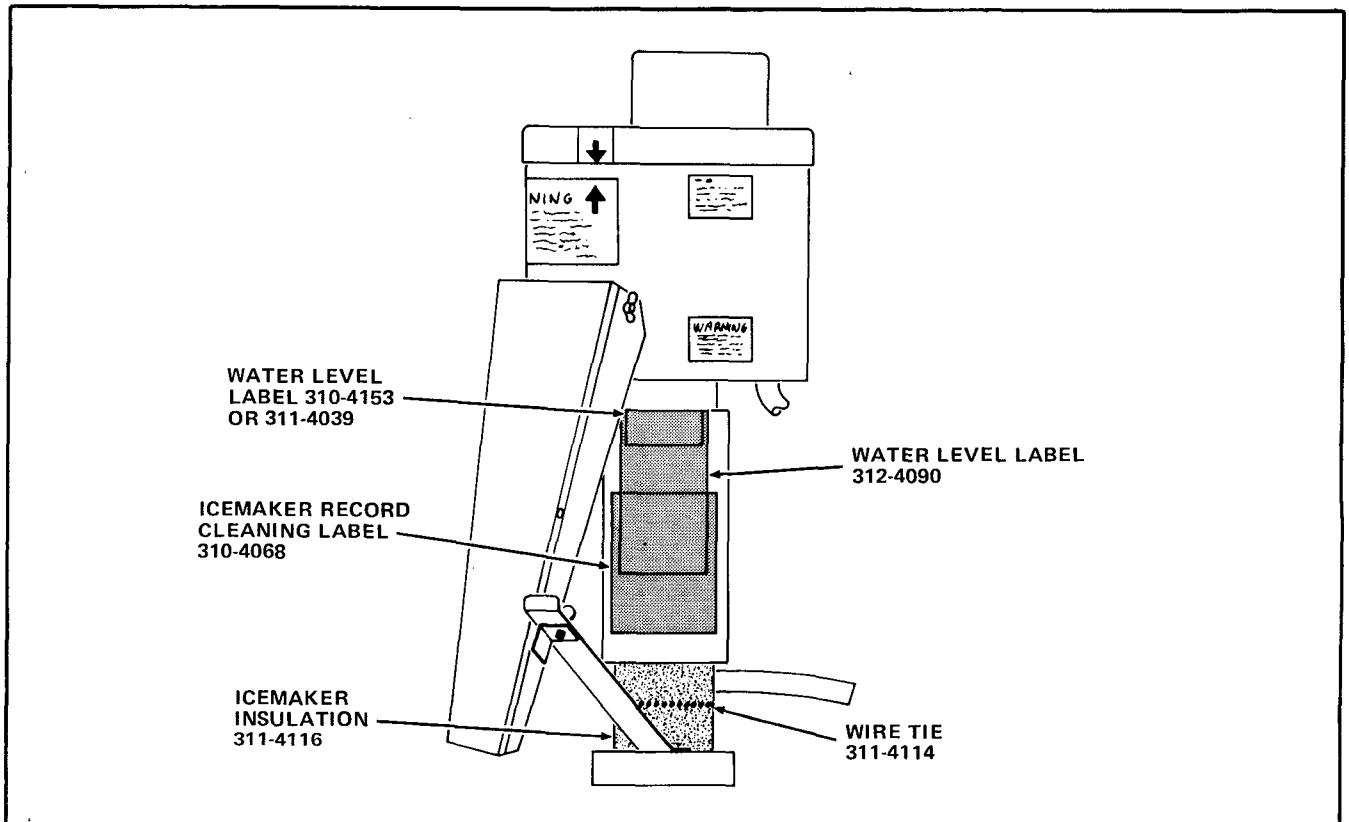

FIGURE 5
23. Attach the appropriate Water Level Label to the replacement Icemaker Assembly Evaporator. See Figure 5.
24. Attach the Icemaker Cleanig Record Label (part number 310-4068) to the replacement Icemaker Assembly Evaporator. See Figure 5.
25. Install the Icemaker Insulation (part number 311-4116) around the Lower Bearing Housing of the Icemaker Assembly. Attach the Insulation with one of the Wire Ties (part number 311-4114). See Figure 5.